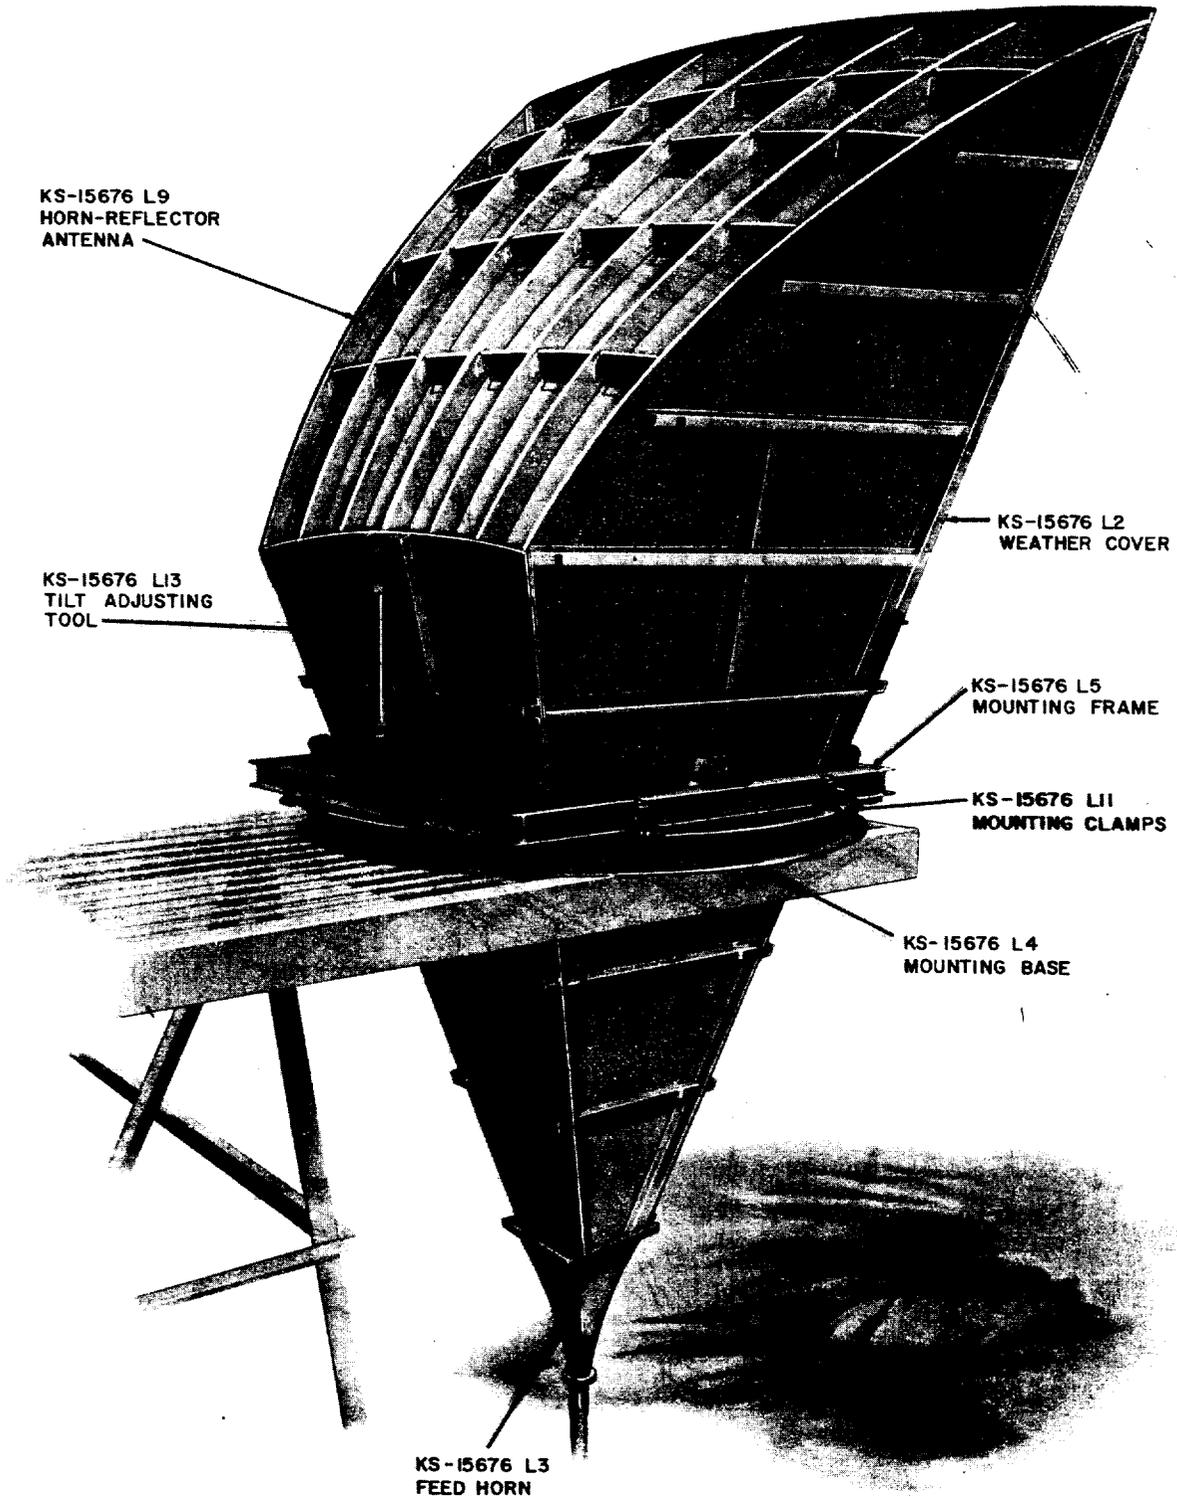

Fig. 1—KS-15676 Horn-Reflector Antenna
1.05 The assembled antenna, List 9BC, is shown in Fig. 1. It consists of a paraboloidal